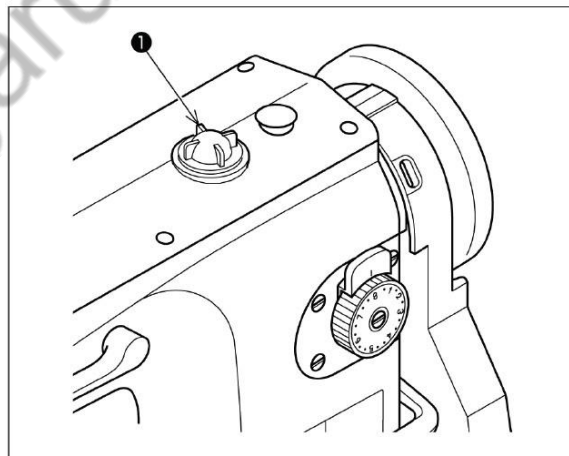

Fig.5
Run the sewing machine to check how oil splashes on oil sight glass (1). See fig.5.